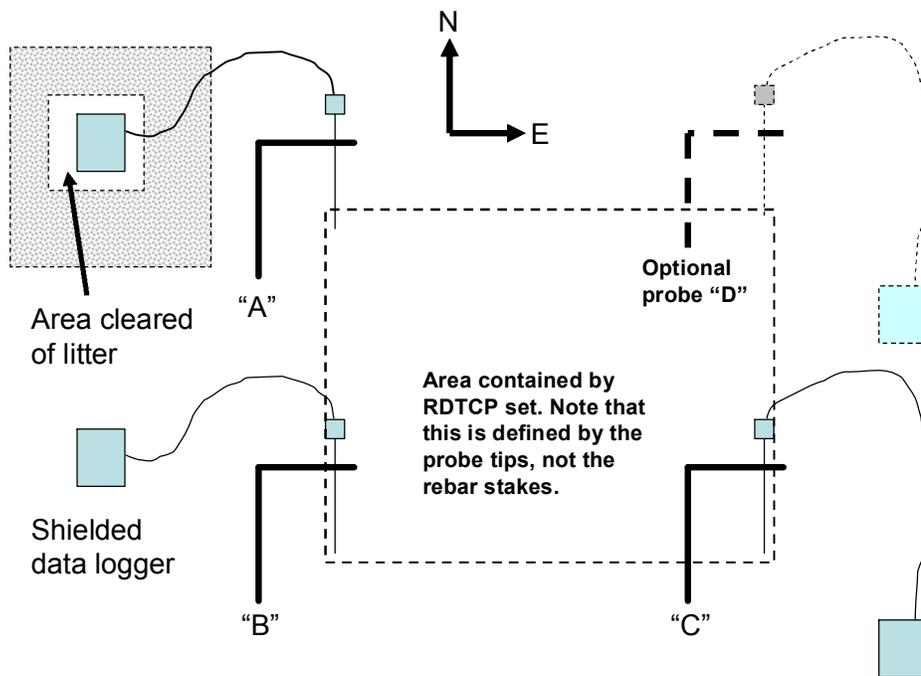

Figure 1. Deployment of a TCP set
To estimate a fire spread vector, a set of three RDTCPs are placed in an L-shape (x-y axis), or a set of four may be placed in a square (fig. 1) (Simard et al. 1984). The advantage of a square shape is that the configuration may be regarded as a set of two reflected axes, so that two estimates of the spread vector can be generated. The disadvantage is a slightly increased time of deployment. Regardless, the estimated rate
- 1) Drive the rebar stake far enough into the ground to be steady and secure. The stake should be placed so that its base is outside of the sampling area (see fig. 1).
- 3) Set the shielded logger at the maximum possible distance from the probe so that it is *not in the area contained by the set* (fig. 1). Clear a space in the litter (~ 30-cm diameter) and set the shielded logger in the middle of the space. This is to minimize flame contact with the fire shelter material. The logger will be adequately protected unless fuel consumption is more than ~10 tons/acre and/or woody fuels are close by. Where fuel consumption is high, more shielding is required. In intense fires avoid burying the loggers because the soil retains heat.